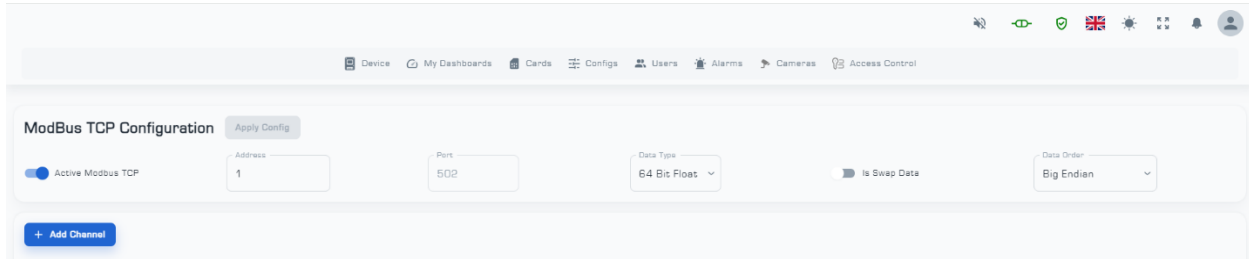

Figure 52: Modbus TCP Settings Page
■ Settings for the 'Modbus TCP' submenu are similar to those for the Modbus RTU protocol. The difference is that, due to the nature of the network communication layer, this section allows for configuring the Modbus protocol address and port (Figure 52).